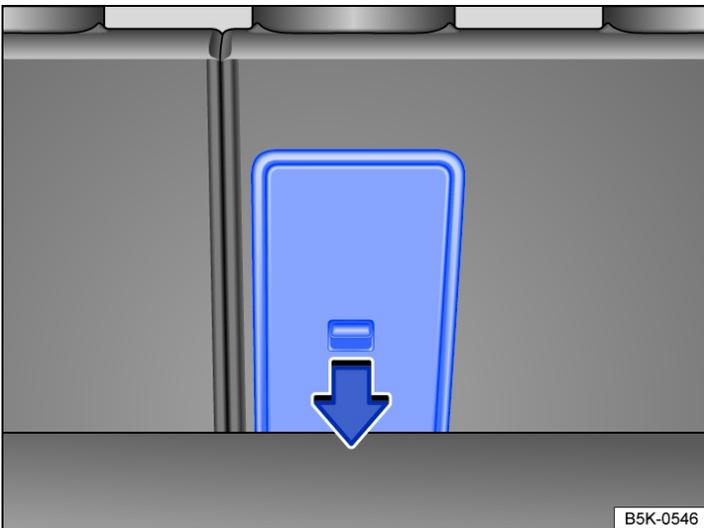

Fig. 2 In the luggage compartment: opening the load-through hatch.
- OR: opening the load-through hatch from the luggage compartment: push the release lever down in the direction of the arrow *→ Fig. 2* and push the cover of the load-through hatch forward.